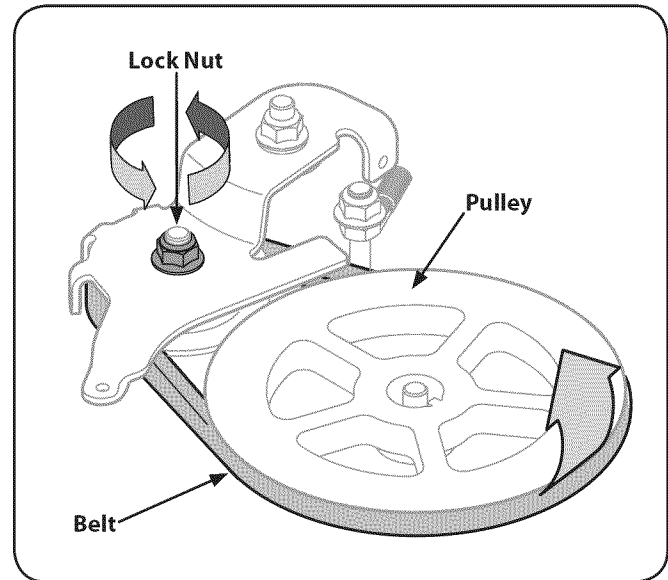

Figure 7-2
2. Loosen the lock nut shown in Fig. 7-2.
3. Unloop the belt from the pulleys. See Fig. 7-2.